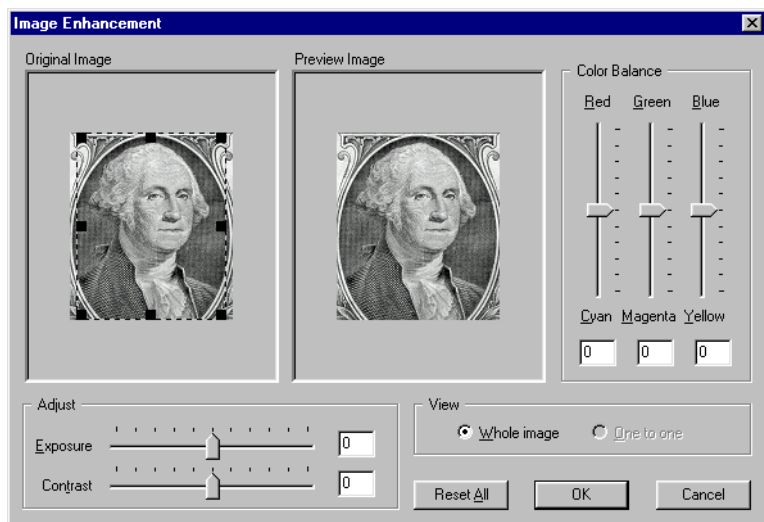

Figure 23: Image Enhancement
- Once the photograph has been created/located, the photograph is placed into the Image Enhancement window where it can be edited to improve the quality of the image as it will be printed on the badge (see Figure 23 on page 21).